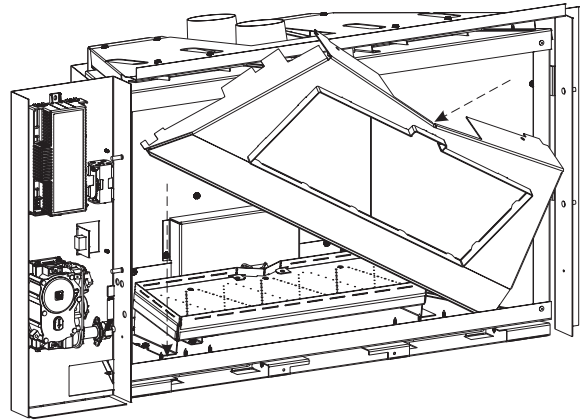

Figure 21
- a. Angle one corner into the bottom first, and then set the other corner down. **See Figure 21.**